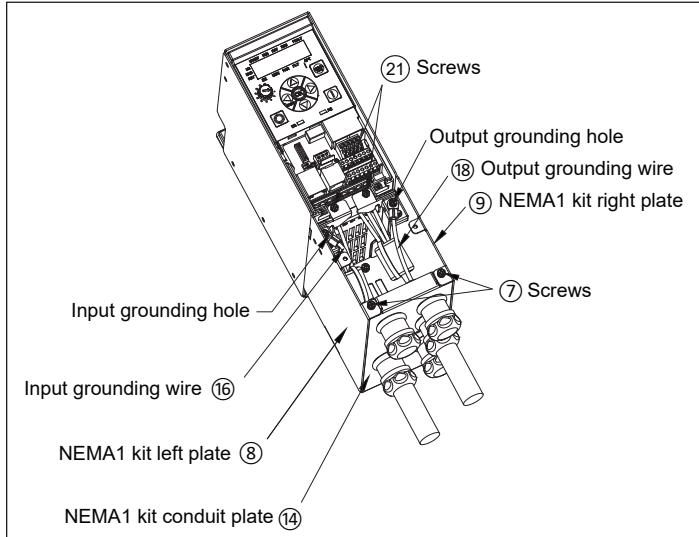

Figure 8. Reinstalling the left and right plates and connecting the input and output grounding wire.
- A. Run the control wires (RJ45, Ethernet, I/O, STO, Relay, etc.) through control wire conduit fittings ⑫ and connect them to corresponding terminals or connectors.
Mount the NEMA 1 kit left plate ⑧ and right plate ⑨ back to the NEMA 1 kit conduit plate ⑭ and drive with two screws ⑦ and two screws ⑰ then connect the input grounding wire ⑯ and output grounding wire ⑱ to the grounding holes on the NEMA 1 kit left plate ⑧ and core NEMA 1 kit right plate ⑨ (see Figure 8).